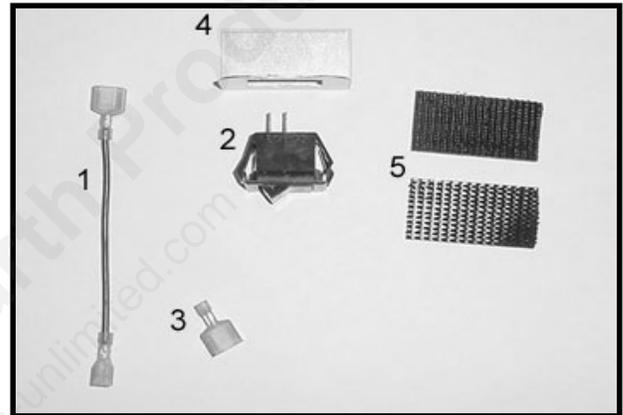

Figure 1 - Components
- e. Install the 1/4" male connector (item 3, Figure 1) to the green main burner wire.
- g. Connect the male end of the jumper wire (item 1, Figure 1) to the white wall switch wire.
- h. Connect the female end of the jumper wire (item 1, Figure 1) to the valve where the green main burner wire was connected.
- k. Connect the ON/OFF switch (item 2, Figure 1) to the two brown wires from the green ignition control box.
- f. Crimp the 1/4" male connector (item 3, Figure 1) to the green main burner wire.
- h. Connect the male end of the jumper wire (item 1, Figure 1) to the white wall switch wire.